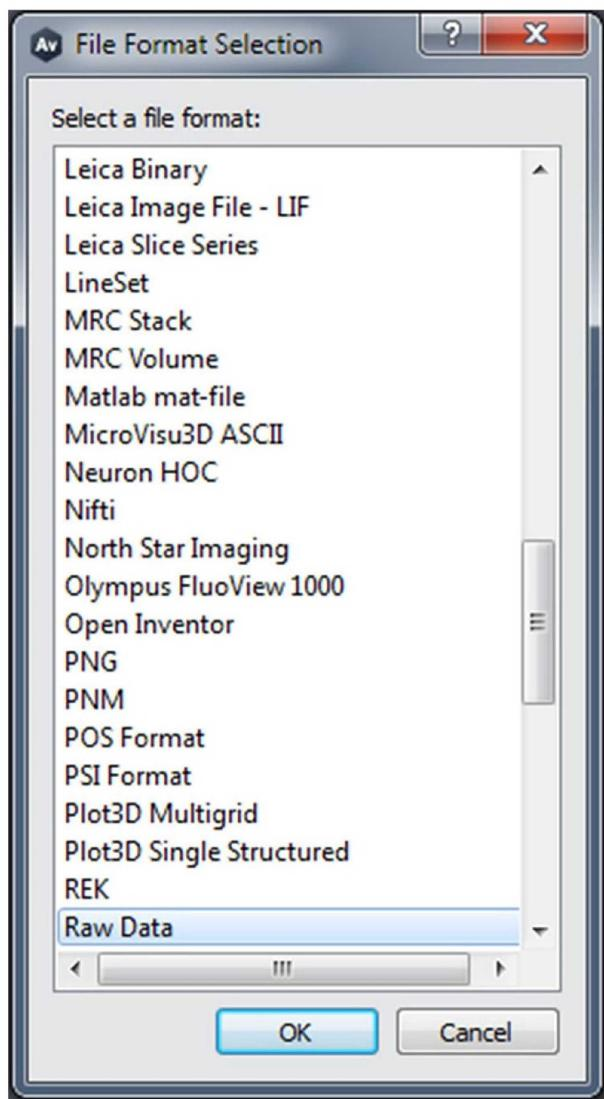

Fig. 6: 'File Format Selection' window.
20.2 In 'File Format Selection' choose 'Raw Data' and press 'Okay' (Fig. 6).